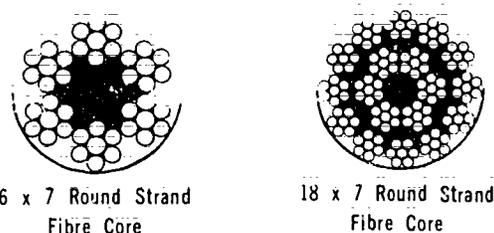

Figure 7-39. Round Strand Rope
**Round Strand ropes** are the simplest of the true rope types and are almost universal in their use. They consist of from 3 to 36 strands laid in various arrangements concentrically around a core. The use of round wires laid in geometric patterns results in a round strand. Figures 7-39 illustrates only two of many round strand wire arrangements available.